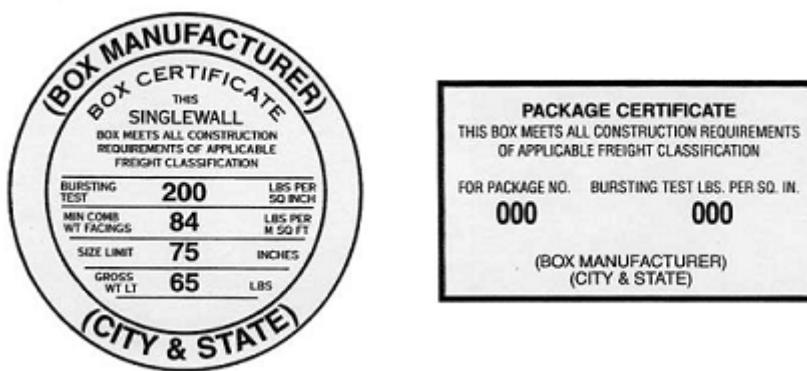

Figure 5. Example of BMC shown in 2 different formats
1. Using Figures 5 and 6, determine the **Length (L) x Width (W) x Height (H)** dimensions of your container. The opening of the container is generally defined by the Length and Width dimensions. The container opening (**Length x Width**) is also usually the top of the container.